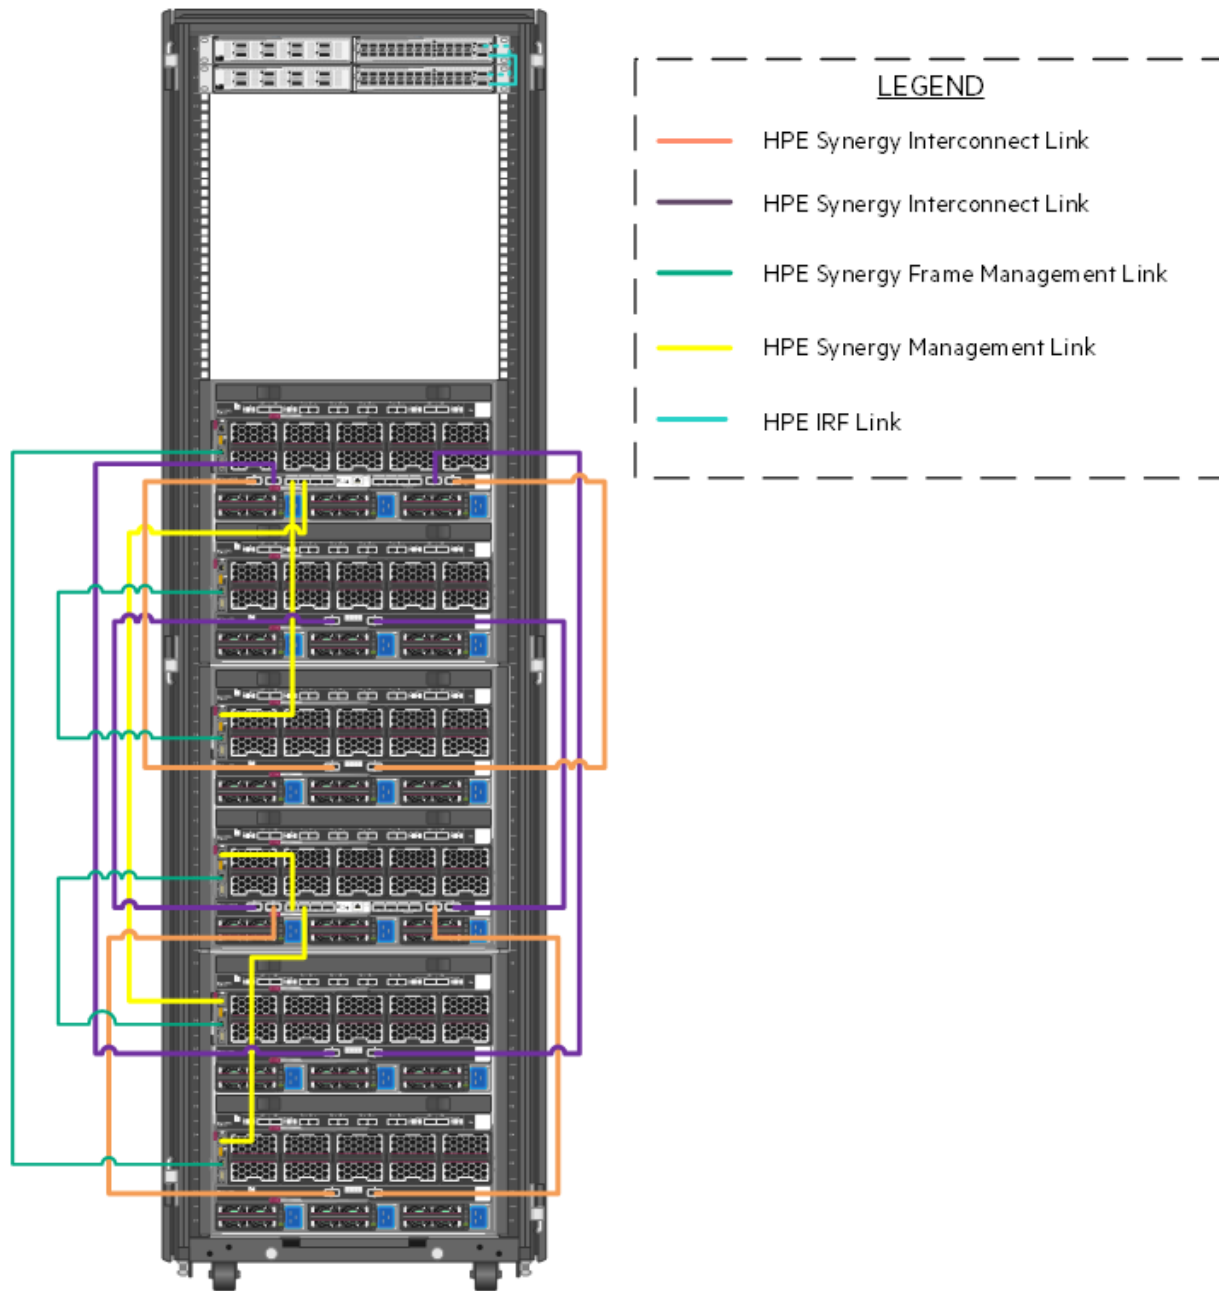

Figure 9. Frame and switch cabling within the solution
Figure 9 describes the cabling configuration of the three (3) Synergy 12000 Frames as well as the HPE FlexFabric 5945 switches and Intelligent Resilient Fabric (IRF) within the context of this solution. These cables carry frame management, inter-frame, and interconnect traffic between frames.